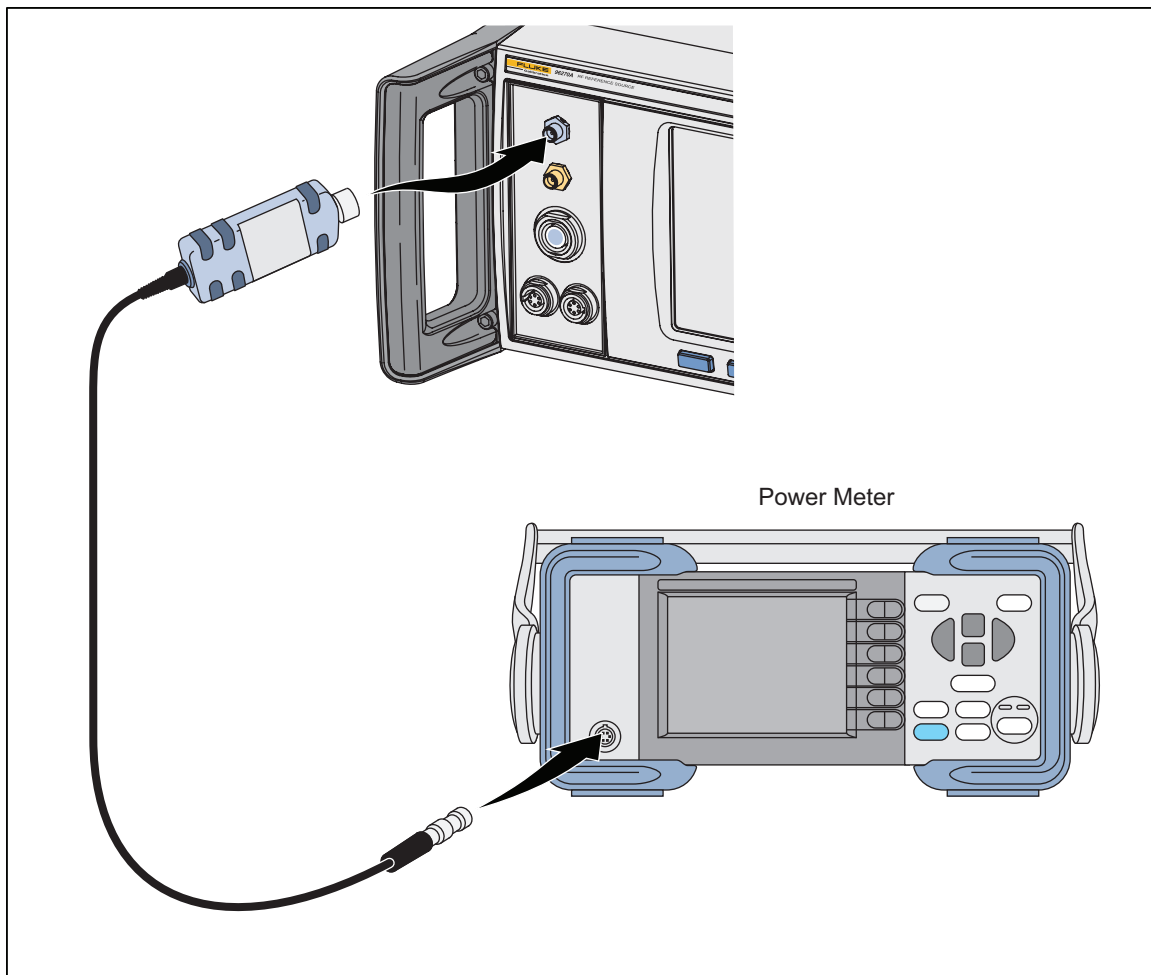

Figure 3-16. Microwave Output Level Accuracy Tests, High Frequency Points
8. Connect the thermal Power Sensor RF input directly to the UUT front panel Microwave Output connector. See Figure 3-16 for equipment connections.